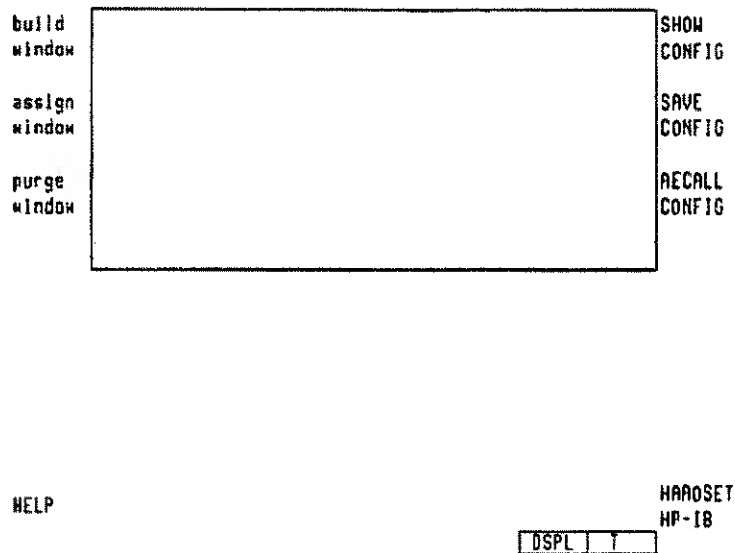

Figure 2-27. Select Window #1
4. Press **EXECUTE**. The entire window should disappear as in Figure 2-27.